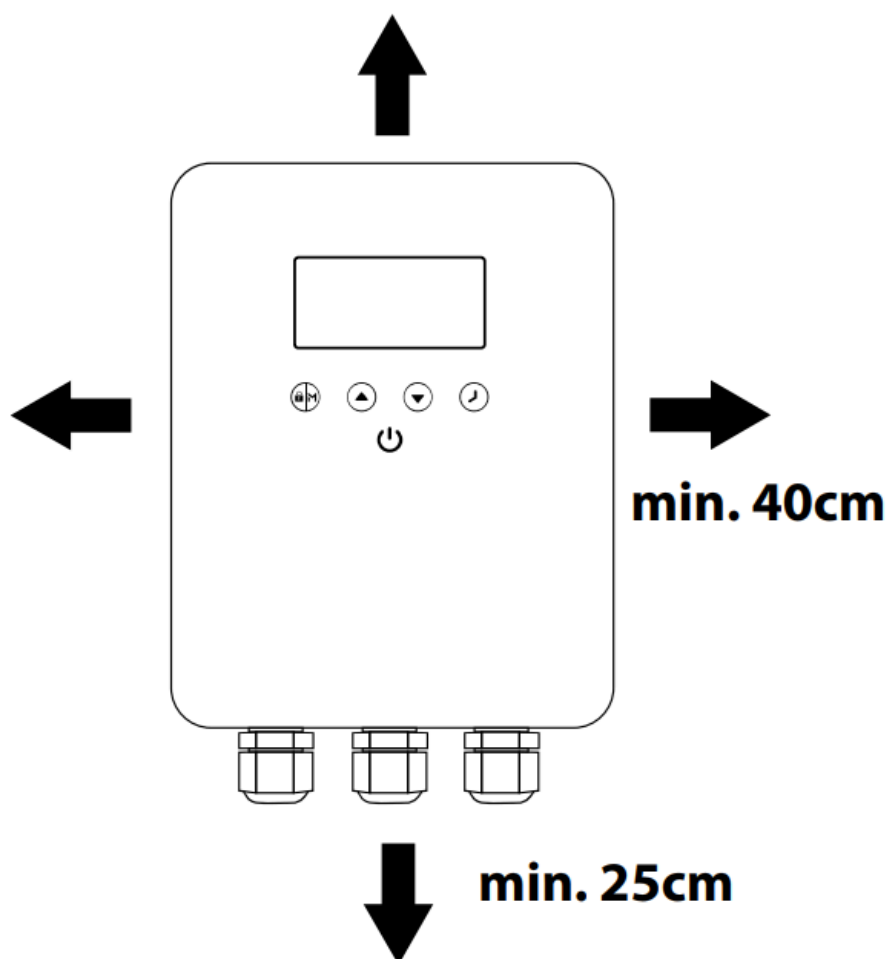

Figure 4. Minimum clearance
- Sufficient clearance around the device (Figure 4: Minimum clearance \(on page 9\))